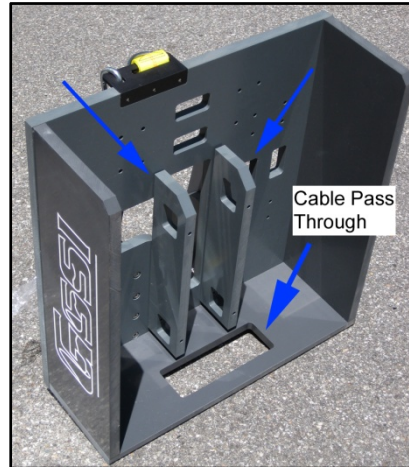

Figure 9: Mount with 900 MHz brackets (Antenna not shown).
- 2** Attach the antenna to the mount. Position the antenna so that the antenna connectors face forward and line up with the cable pass through (Figure 9). Identify the correct set of holes on the mount and secure the antenna to the mount with (4) M5x30 hex (Allen) bolts and washers. Run the control cable through the cable pass through and attach to the antenna. Be sure to secure any loose control cabling to prevent it from catching on any obstruction.